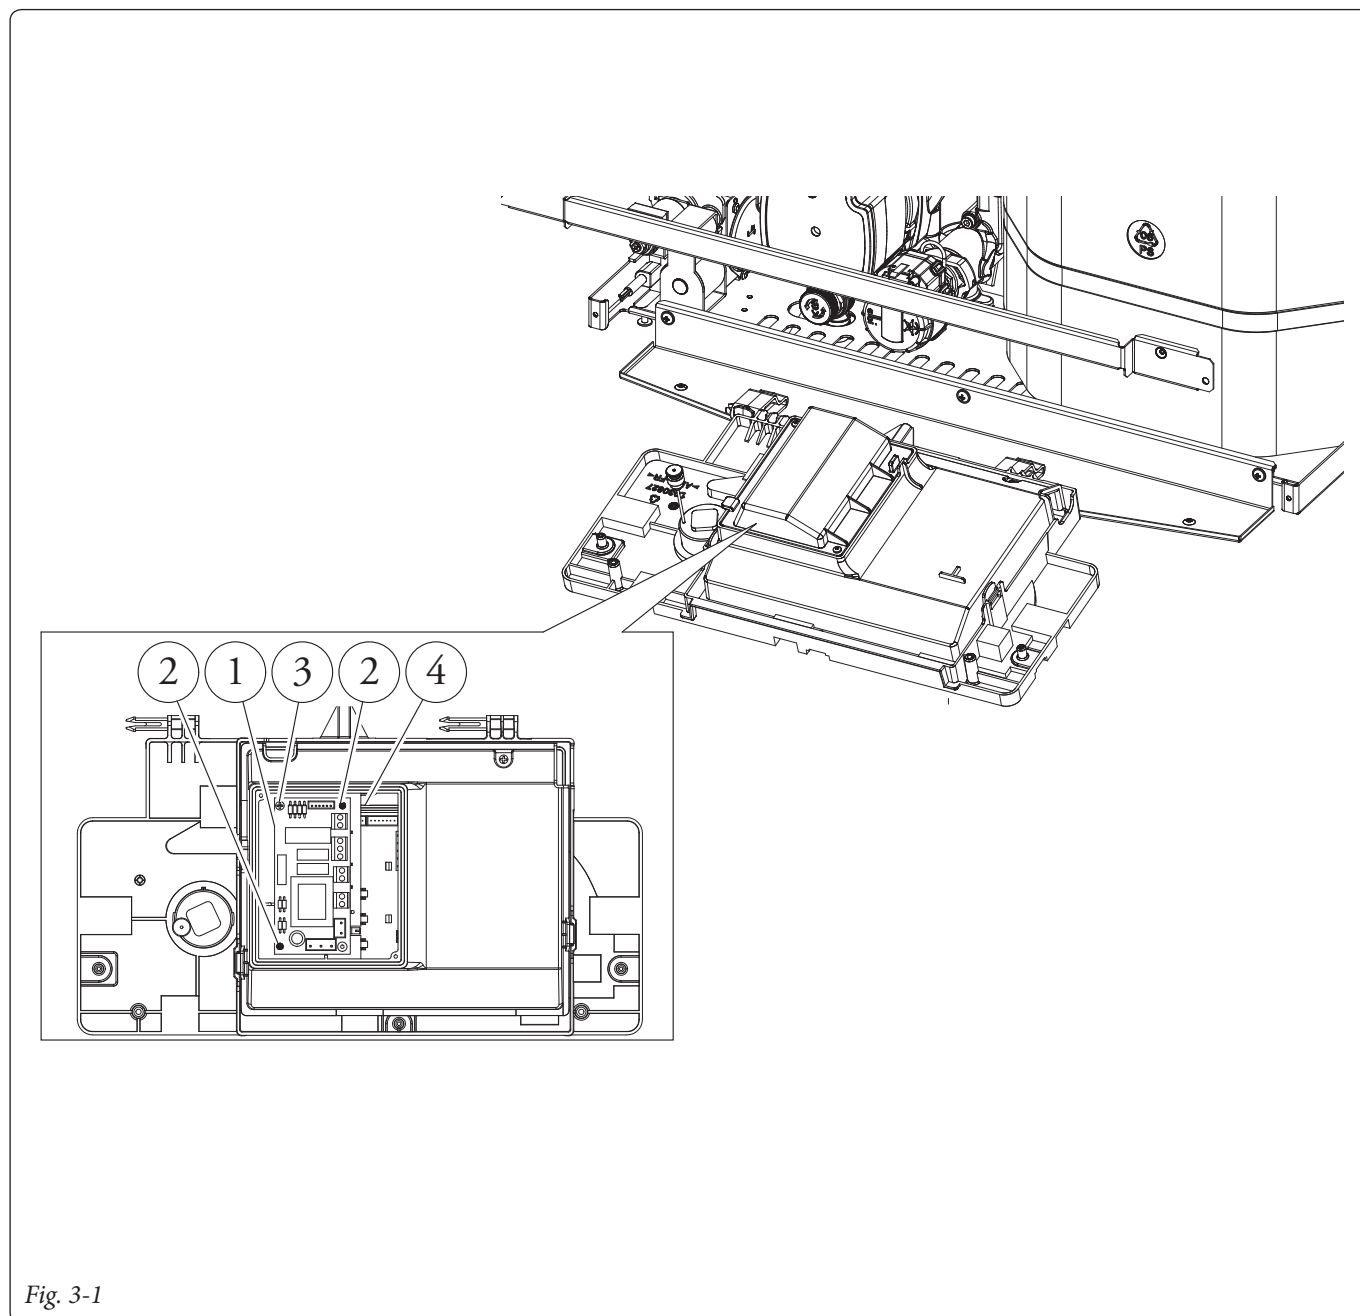

Fig. 3-1
- Open the control panel compartment to install the relay board (1) (see figure 3-1).
- Mount the board making the male pins (2) match the holes in the board (1) and fix it using the cross-head screw (3) (see figure 3-1).
- Make the electric connections between the relay board (1) and the boiler P.C.B. (4) using the relative wiring composed of two cables supplied with the kit. Connect the external components according to requirements following the wiring diagrams given on the next pages.